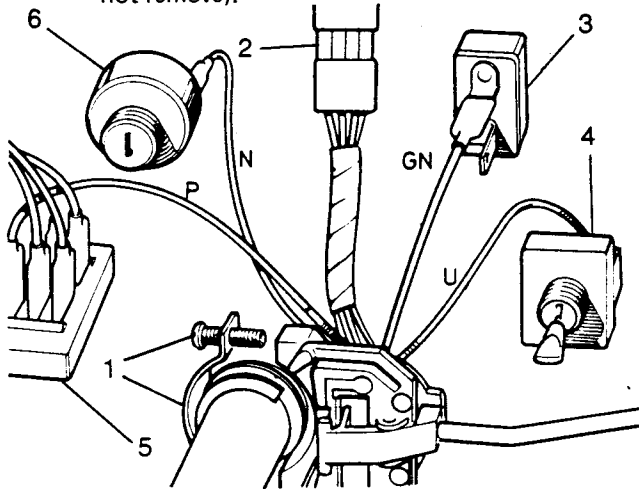

Fig O5.21
- (3) Refer to Fig O5.21. Unscrew the bolt (1) to release the switch from the steering column.
- (4) Withdraw the combined switch sufficient to disconnect the main harness (2) at the plug connector.
(5) Withdraw the instrument panel clear of the dash (see Sub-section O5, Chapter 27).
(6) Disconnect the switch leads from the flasher unit (3), lighting switch (4), fuse box (5) and ignition switch (6). Note that only the leads connected to the switch unit are to be disconnected at the other units.
(7) Withdraw the combined switch.